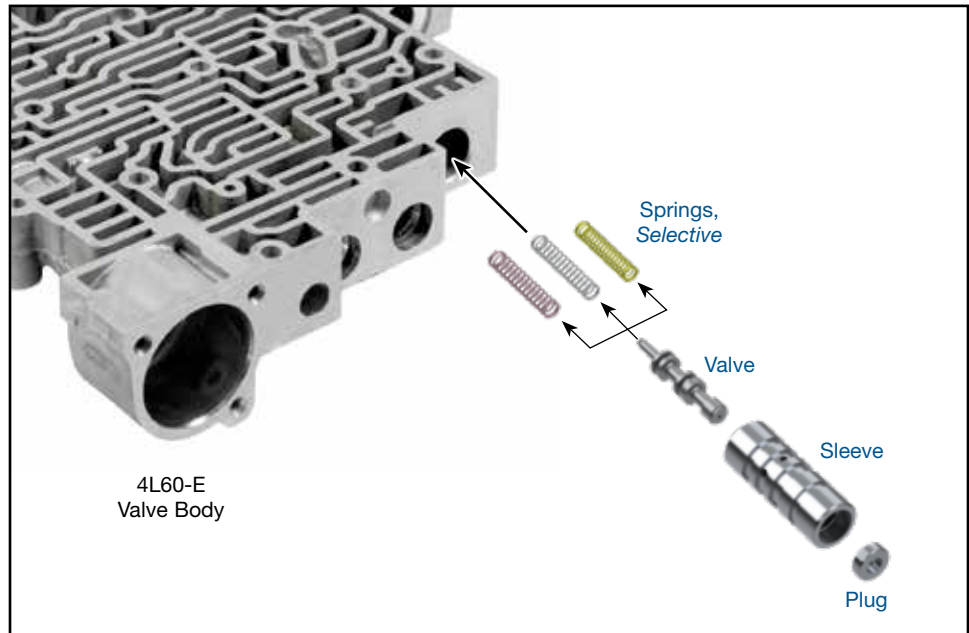

Figure 1
NOTE: Fits valve trains with sleeve stamp codes CX, DX or YZ only (Figure 1).
- Take note of the identification mark on end of the OE sleeve (Figure 1).
- Select one of the three Sonnax springs which corresponds to the mark on the end of the OE sleeve to obtain desired shift quality (Figure 1).